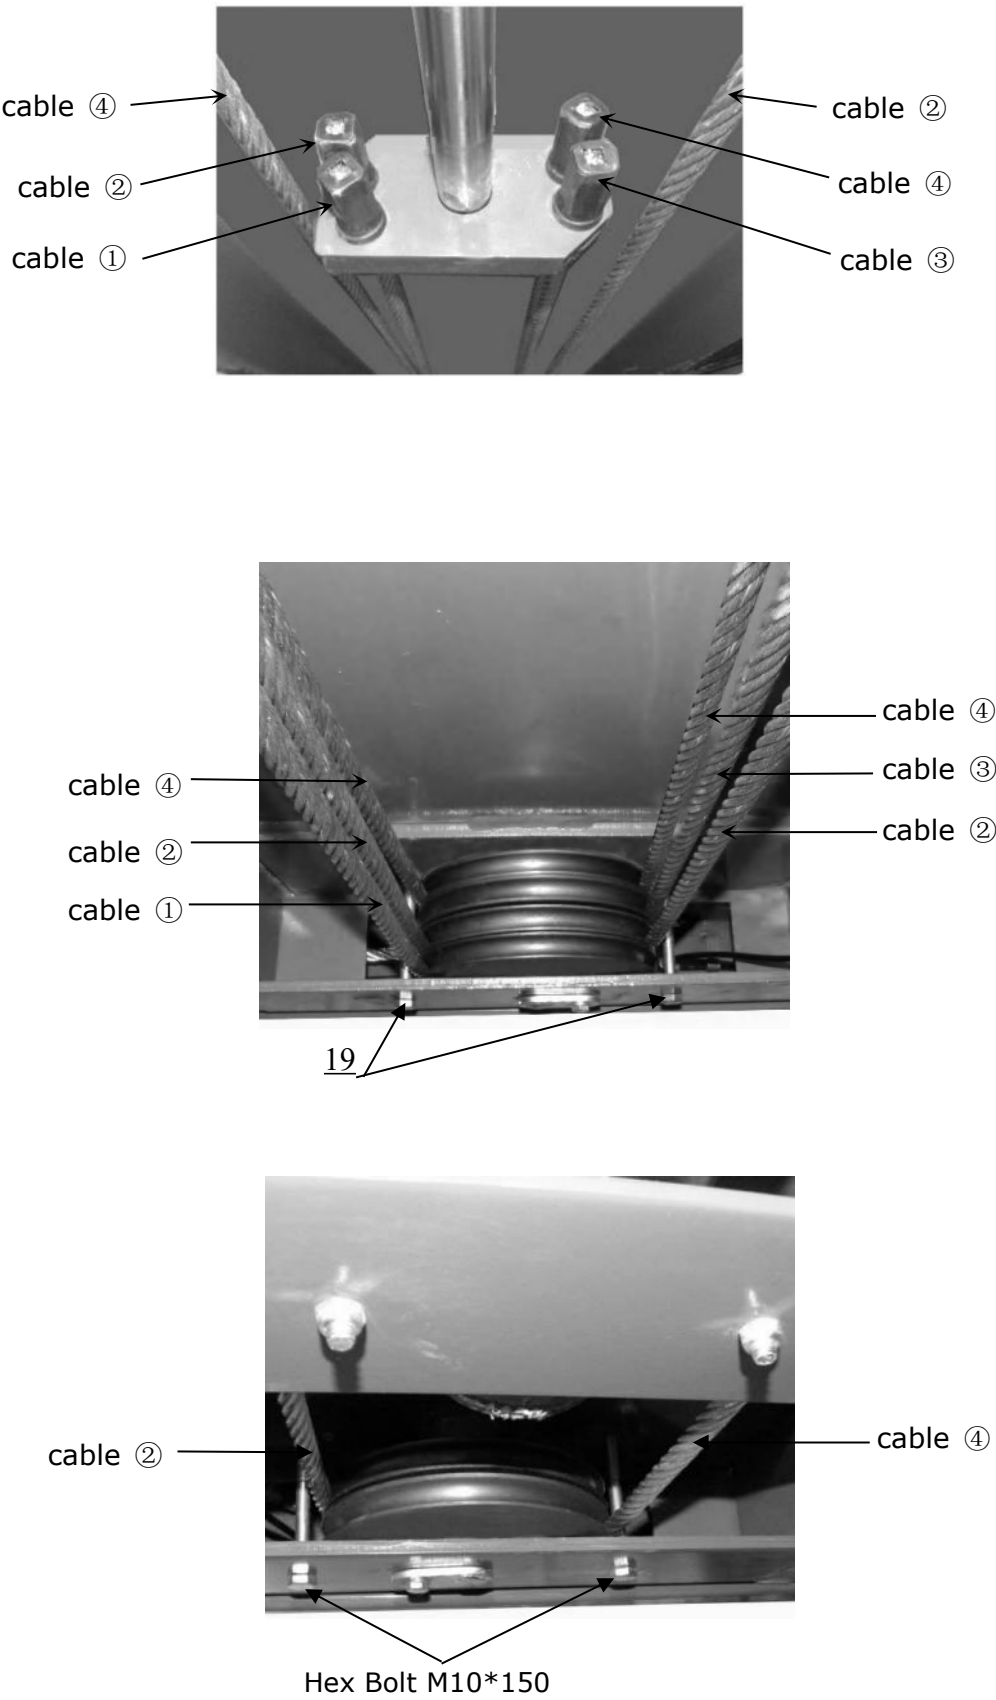

Fig. 26
3. Illustration for platform cables (See Fig. 26).